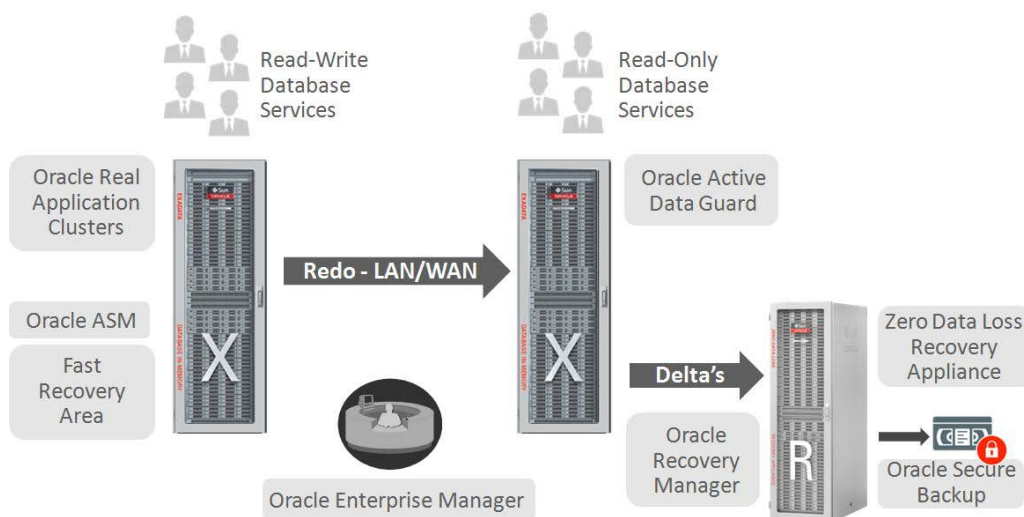

Figure 1. Basic Oracle Exadata Database Machine Configuration
Exadata MAA architecture shown in Figure 1 is designed to tolerate unplanned outages of all types, providing both high availability (HA) and data protection. Exadata MAA also minimizes planned downtime by performing maintenance either online or in a rolling fashion. The range of potential outages and planned maintenance addressed by Exadata MAA are described in Appendix 1 of this paper: Exadata MAA Outage and Solution Matrix. For real world examples of how Exadata achieves end-to-end application availability and near zero brownout for various hardware and software outages, view the failure testing demonstrated in this Exadata MAA technical video¹. Also refer to Oracle MAA Reference Architectures that provide blueprints that align with a range of availability and data protection requirements.